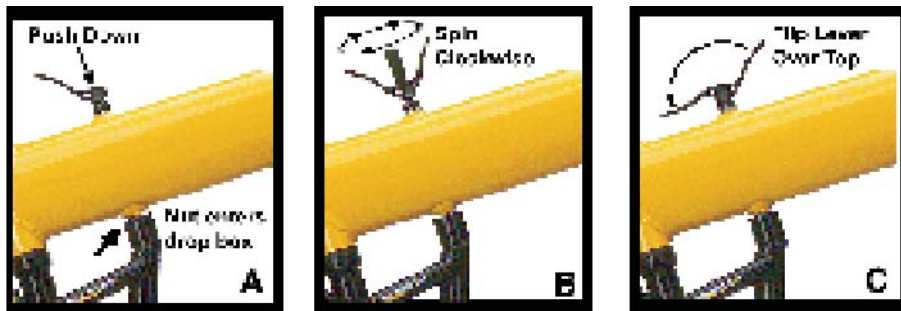

Fig. 15a: Quick Release Operation for Final Assembly
1. To unfold the bike place the rear wheel firmly on the ground, grasp the rear wheel with one hand and the handlebar stem with the other and unfold the bike. When the frame is almost completely unfolded, push down on the opened boom tube quick release so the quick release nut enters the quick release drop box. Secure the boom tube quick release lever by rotating it in the open position clockwise 5 to 6 times (Fig. 15a & 15b). Lock the quick release lever with the lever pointing towards the saddle. Make sure the Quick Release End Nut is completely inside the Quick Release Drop Box. See "Operation of Quick Releases", page 5.